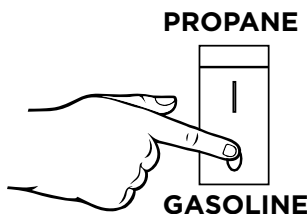

Figure 8 - Fuel Select - Gasoline
5. Make sure fuel select switch is on **Gasoline** (see Figure 8 below).